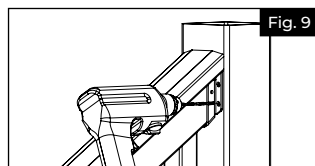
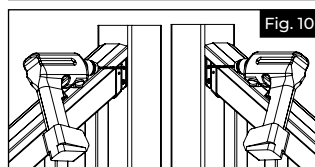

Fig. 9
Fig. 10
- Snap bottom rail bracket covers snugly onto bottom brackets (Fig. 9).
- Push all balusters into bottom rail (Fig. 10).
- a. Position the top stair metal bracket on the top rail. Center your bracket on the post. Using the holes in the bracket as a guide, pre-drill one of the lower holes with a $\frac{5}{32}$ " drill bit (Fig. 9). Drive one of the #10 x $2\frac{1}{2}$ " screws through this hole. Pre-drill the other lower hole and drive another $2\frac{1}{2}$ " screw into it. Now pre-drill the upper 2 holes in the bracket (Fig. 10). Drive two more $2\frac{1}{2}$ " screws into those holes. Be careful not to overtighten.
- i. Enclencher les couvercles des supports de la lisse sur les supports inférieurs (Fig. 9).